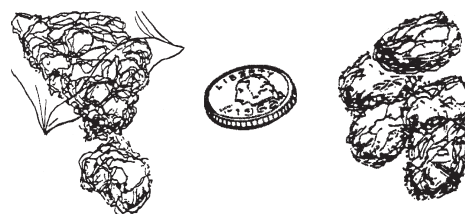

Figure 5—Glowing Ember Separation
3. Separate the glowing embers from the larger bag into pieces about the size of a quarter, as shown in **Figure 5**. Mix the glowing embers with the bag of platinum embers also provided with the fireplace. Keep the pieces fluffed, not matted. Distribute these pieces over the burner as shown in **Figure 6**. Do not use more glowing embers than necessary. When properly positioned, the glowing embers will cover approximately 75% of the burner for natural gas applications. For propane gas, do not place any glowing embers on the main ports.